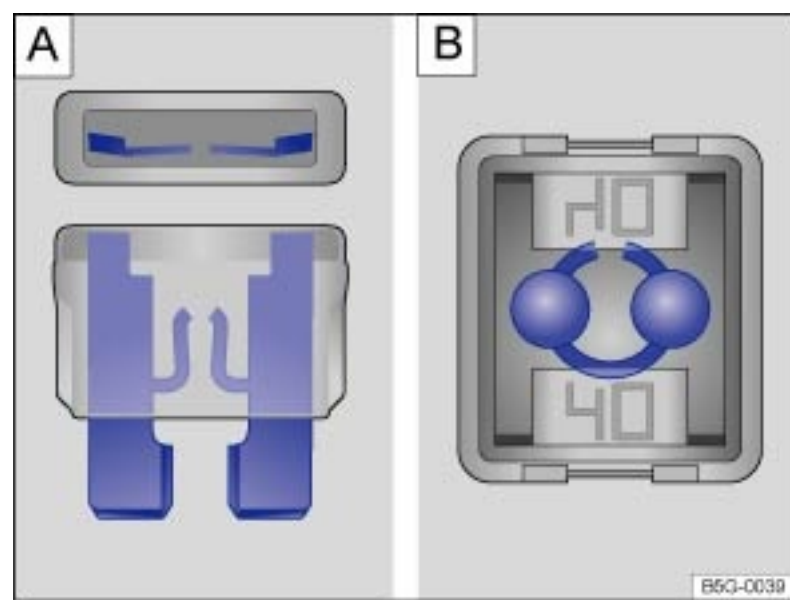

Fig. 222 Blown fuse: : Blade fuse. : JCASE® fuse.
- ▶ A blown blade fuse (ATO[®], MINI[®]) has metal strips that have burned through, which you can see through the transparent housing from above and from the side → Fig. 222 .
- ▶ A blown cartridge fuse (JCASE[®]) has metal strips that have burned through, which you can see through the transparent housing from above → Fig. 222 .